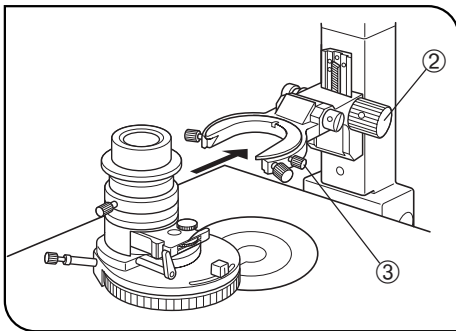

Fig. 78
1. Rotate the condenser height adjustment knob ② to raise the condenser to the upper limit position. (Fig. 78)
2. Loosen the condenser clamping knob ③. (Fig. 78)
4. Tighten the condenser clamping knob ③. (Fig. 78)